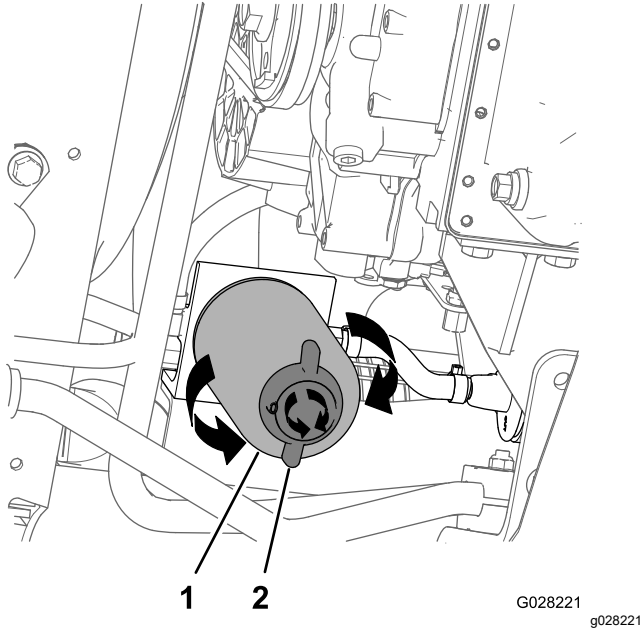

Figure 81
- Align a drain pan under the fuel filter; refer to Figure 81 in Replacing the Water-Separator Filter \(page 62\).
2. Place a drain pan under the water-separator filter (Figure 81).
3. Rotate the drain valve at the bottom of the water-separator filter counterclockwise (Figure 81).
4. Clean the area around the water-separator filter and filter-adapter mount (Figure 81).
5. Remove the water-separator filter (Figure 81).
9. Ensure that the drain valve at the bottom of the water-separator filter is rotated clockwise tightly (Figure 81).